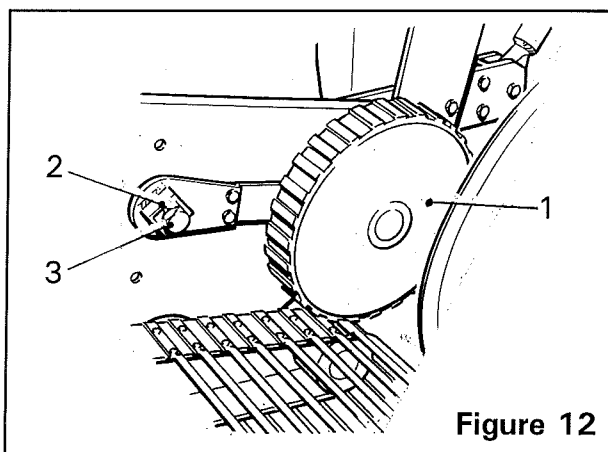

Figure 12
The haulm intake rollers (*item 1, figure 12*) are spring loaded down onto the digger web bars. The outer rollers are fitted with rubber torsion springs (*item 2, figure 12*) which are mounted to the web sides by threaded bolts (*item 3, figure 12*) which allow the required amount of tension to be applied by rotating the bolts and locking them in place. The centre rollers (if fitted) are mounted on a spring loaded arm and are tensioned with a coil spring and threaded adjuster.